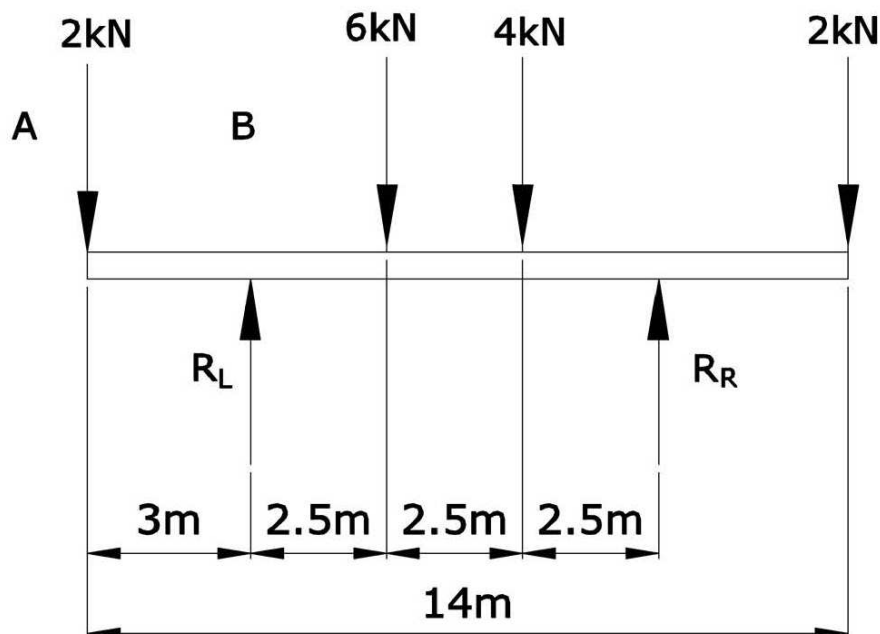

Figure 3b
- Using a scale of 10 mm representing 1 metre, copy the given space diagram shown in Figure 3b and complete with Bow's notation. (2)
- Using a scale of 10 mm representing 1 kN, draw the vector diagram to find the magnitude, direction and sense of the equilibrant. The polar distance is to be 100 mm. (2)
- Construct the funicular polygon and determine graphically the value of the left and right reaction. Write down the results. (4)
- Draw a shear force diagram. (3)
- Determine the position and distance in mm of the greatest bending moment. (2)